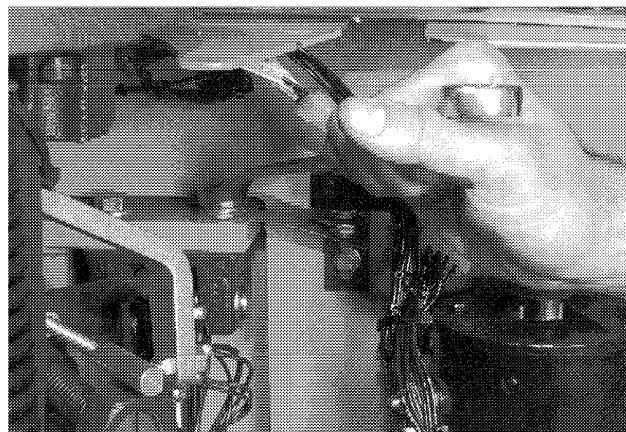

Figure 6-130: Removing Piston Clevis From Fork Frame
15. Remove the two (2) hex head cap screws securing the piston clevis to the fork frame. See Figure 6-130.